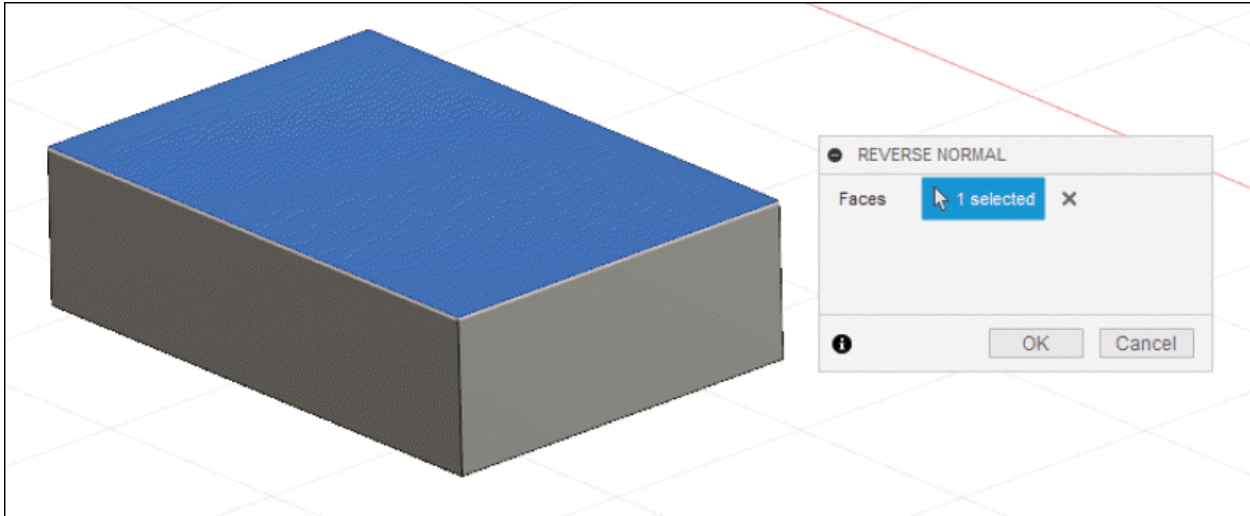

Figure-33. Selection of surface to flip
- The **Select** button of **Faces** section is active by default. You need to select the face to flip; refer to Figure-33.